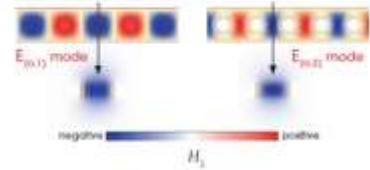

Figure 4: Cross sections of H_z field for lowest-order TE-like modes from figure 3 at the Brillouin-zone edge, $k_x = \pi/a$.
- The H_z field component is plotted as demonstrated in figure 4, providing insights into the relationship between symmetry and polarization.